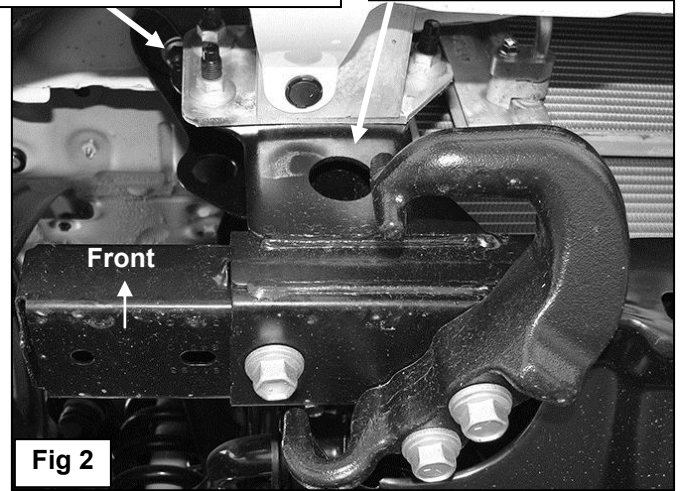

Fig 2
2. Start installation at the passenger side, front of the vehicle. Remove the (2) outer factory hex nuts attaching the bumper mount to the end of the frame, (**Figure 2**). **NOTE:** It may be necessary to temporarily remove the factory tow hook from the passenger side